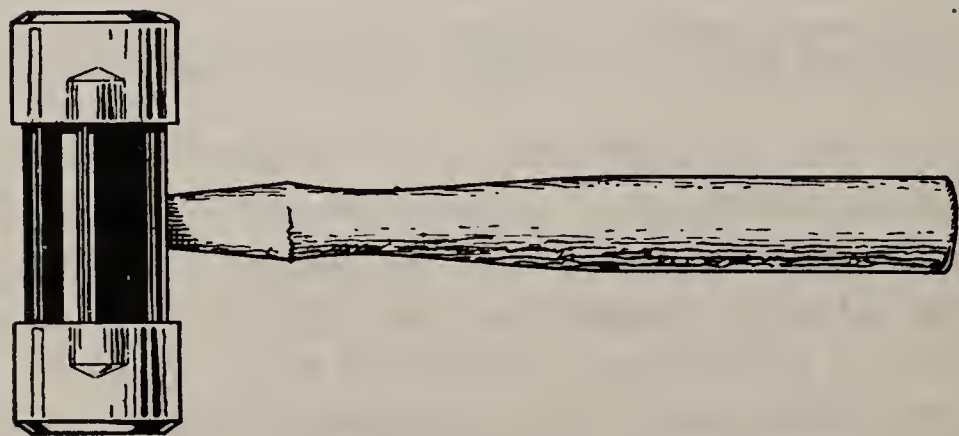

Fig. 6. Typical soft-face hammer.
Fig. 6 shows a hollow-spiral bit, which has a screw point and only one cutting edge, the function of its hollow center being to
Fig. 6. Typical auger-bit styles. The auger bits shown represent (A) hollow-spiral bit (single twist); (B) double-spur bit (fluted) and (C) double-spur bit (solid center) respectively.
A soft-face hammer is shown in Fig. 6. A feature of this tool is renewable tips which are clamped in the head of the hammer. The tips may be of rawhide, babbit, copper or plastic that will not mar finely finished surfaces. This tool is used in forming of soft metals, assembly work, home workshops and in automotive repairs.